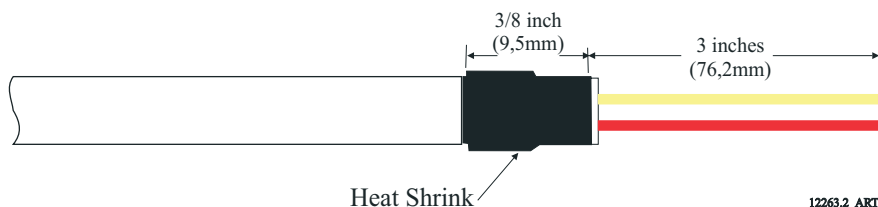

Figure 4-10: Two-Conductor Start Interlock Cable
- Strip back 2 inches (50,8mm) of the PVC jacketing. Refer to Figure 4-10: Two-Conductor Start Interlock Cable